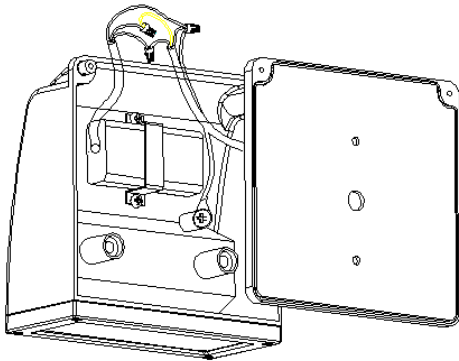

Figure 3
Step3: Connect electrical wires to the fixture by pulling wires from the outlet box into Electrical Cavity. Connect wire on unit to wires from outlet box, See Figure 3. Remind the GND wire connected.